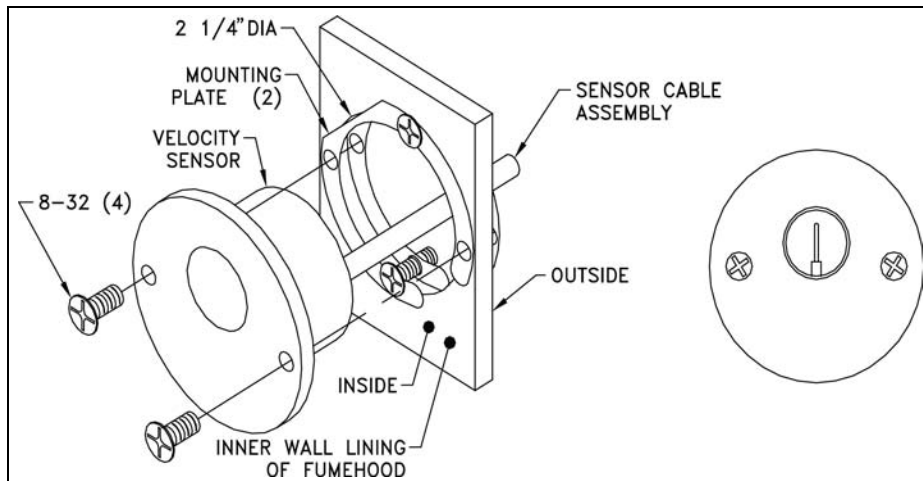

Figure 4: Mounted Velocity Sensor
3. Thread the SENSOR CABLE ASSEMBLY through the mounting plates down to the VELOCITY MONITOR electrical rough-in box (Figure 4). The space between the fume hood liner wall and outer sheet metal panel works well as a chase. Leave 8 inches of slack at the VELOCITY MONITOR end (**DO NOT CUT SENSOR CABLE LENGTH**).
4. Mount the VELOCITY SENSOR to the MOUNTING PLATE using the remaining two 8-32 × 5/8-inch screws provided (Figure 4).
5. The mounted VELOCITY SENSOR should look like Figure 4.